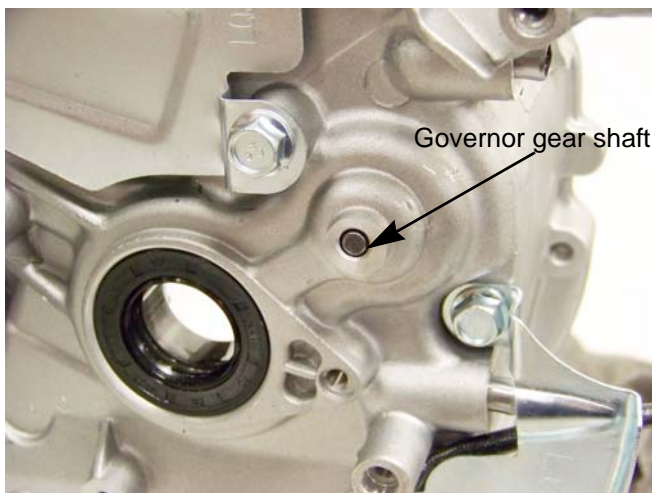

Figure 4.29
5. Drive out the governor gear shaft using a 5/32" pin punch. See Figure 4.29.